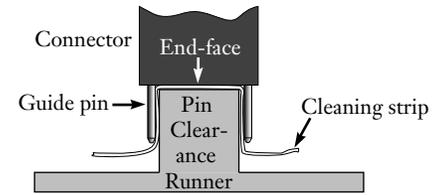

Figure 6-2
**6.2-2** The Universal Connector Cleaning Cassette uses a special cloth tape over two pin-clearance runners to clean the connector end face of MT-RJ connectors which have guide pins (Figure 6-2).